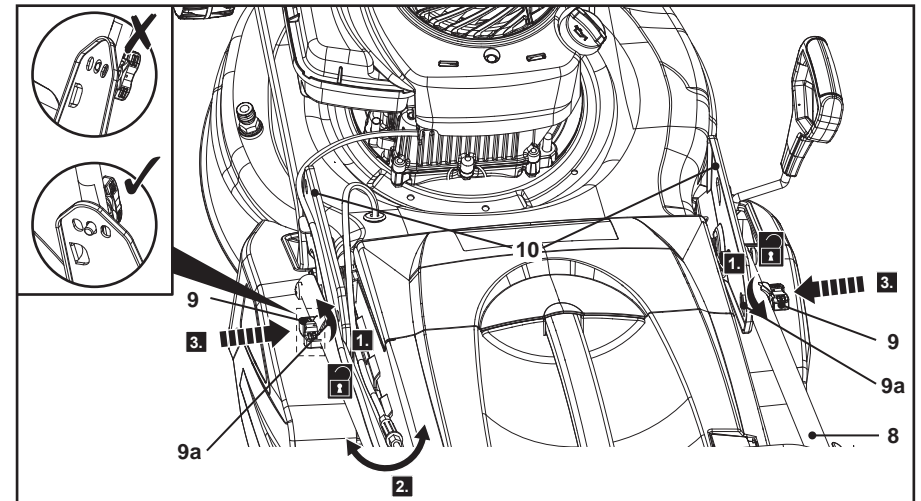

Fig. 11
2. Loosen the two locking knobs (9) 90° anti-clockwise from the handle brackets (10) and the lower handle bar (8) (Fig.11, step 1).
3. Swing the handle assembly (1, 8) to align the desired mounting holes (8a, 10a) of the lower handle bar (8) with the two handle brackets (10) (Fig. 11, step 2), then turn the two locking knobs (9) 90° clockwise.
4. If necessary, press the locking knob (9) to make sure that the auto-tension pin (9a) passes through the mounting holes (8a, 10a) of the lower handle bar (8) and handle bracket (10) on both sides (Fig. 11, step 3).